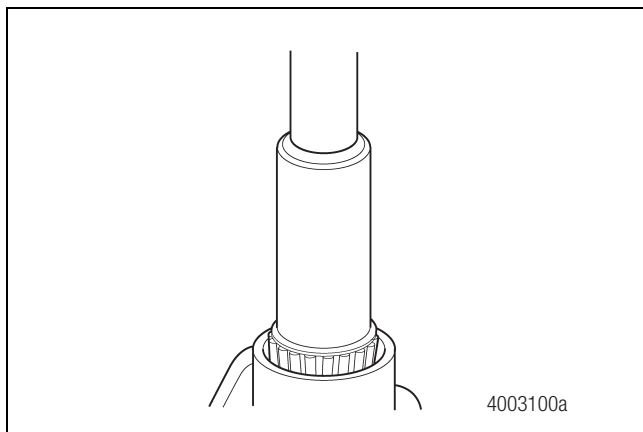

Figure 4.19
8. Use a pinion bearing cone driver, tool drawing number 5027, to install the outer shim and press the outer bearing cone onto the pinion. Figure 4.19. Refer to Section 8, Figure 8.4, for instructions to build the tool.